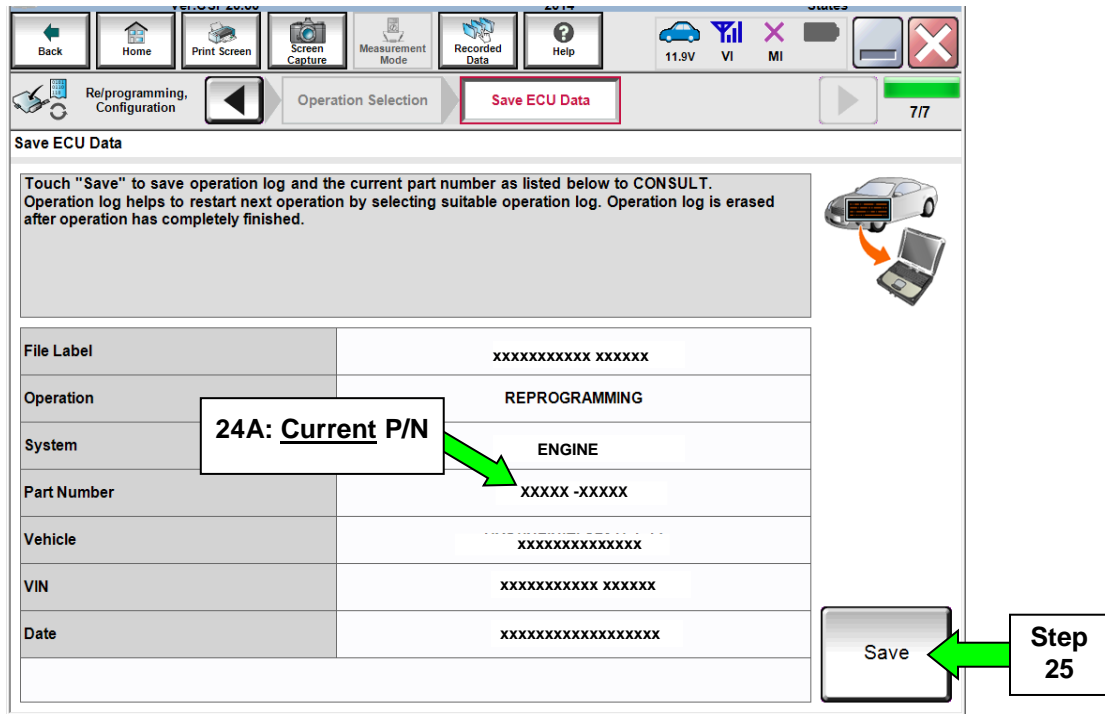

Figure 10
23. Follow the on-screen instructions and navigate C-III plus to the screen shown in Figure 10 on the next page.
24. When you get to the screen shown in Figure 10, confirm ECM reprogramming applies as follows.